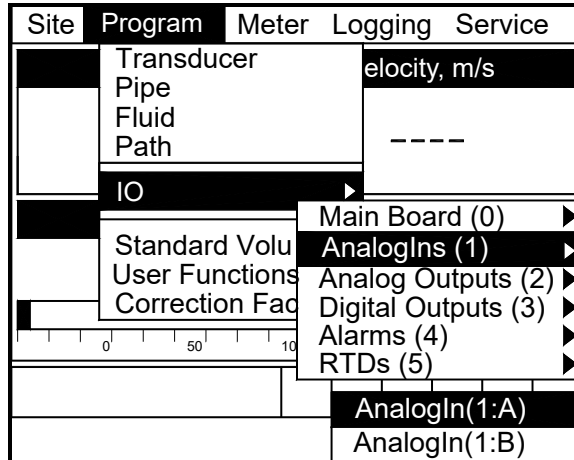

Figure 16: Analog Inputs Option Window
1. Scroll to AnalogIns and press [ENTER] to confirm your selection. Another drop-down menu as in Figure 16 below appears.